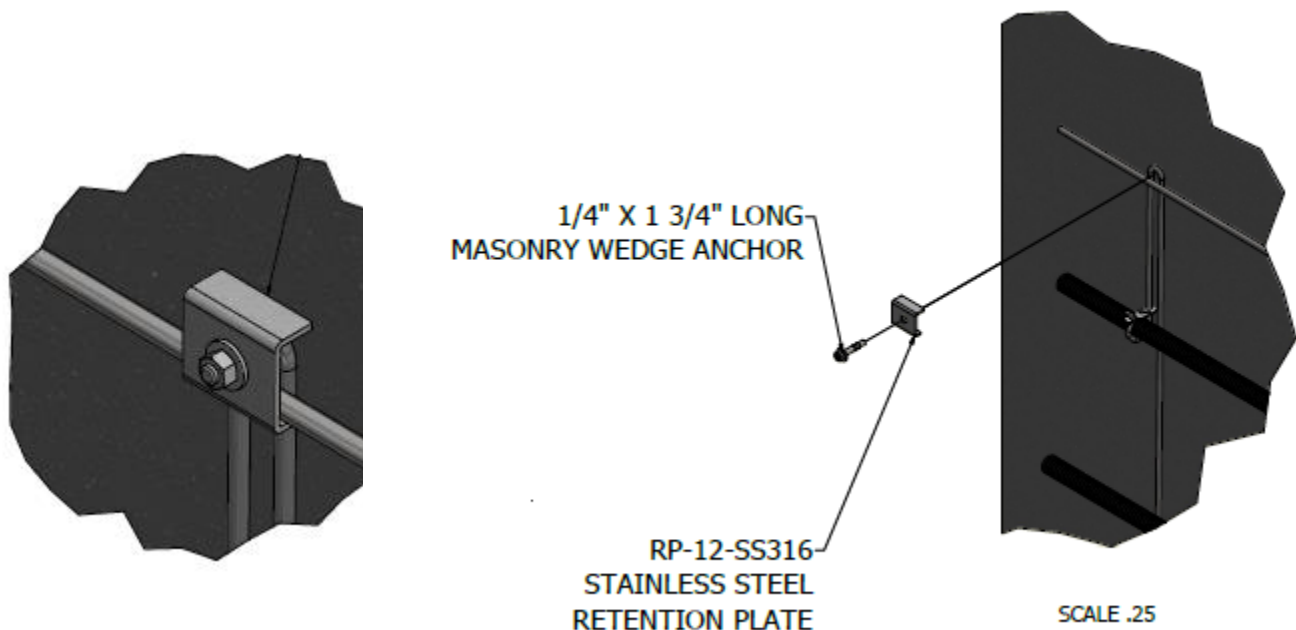

Figure 4
4D. Cable Tray – (Optional) In lieu of supports and clamps, open ladder type hot-dipped or electroplated galvanized steel cable tray shall be permitted (Figure 4). The tray must be rigidly secured to the wall or floor assembly, using supports described above. Supports shall be spaced every 6 feet on center (OC) maximum. Nylon ties or Steel clamps can be used to secure the armored cable to the tray. The cable tray and cables shall be installed in accordance with the NEC or CEC, dependent on location.